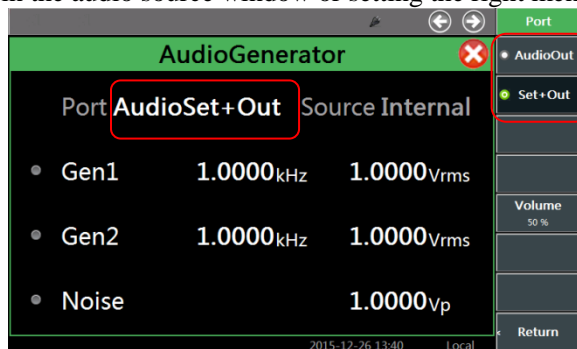

Fig. 4-28 Output Port Setting Window
- Setting of output port: as shown in Fig. 4-28, select the audio or noise signal transmission to the audio output port and audio box speaker by clicking the drop-down menu on the right side of the output port in the audio source window or setting the right menu.